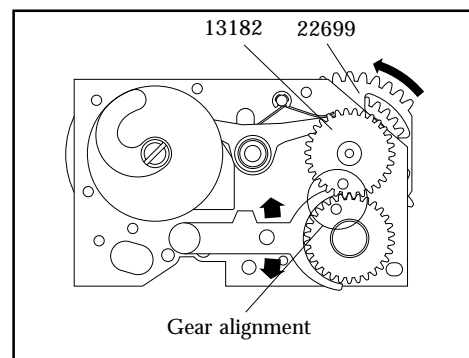

Fig. 14
**Note! The position of the gear wheel engagement according to fig.14.**
Tension the spring by rotating the gear wheel (22699) in the direction shown in fig. 14. Test the operation by pushing the shutter release connecting rod up and down several times (tension the spring after each operation). The gear wheels should rotate freely. Fig. 14.